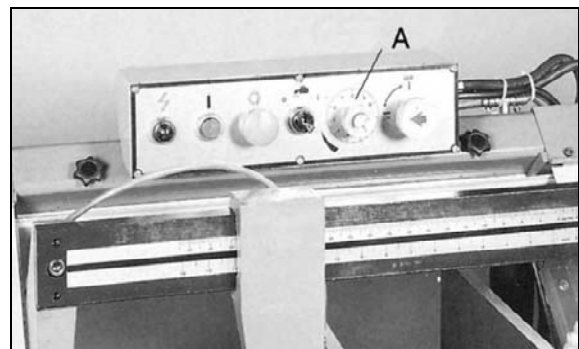

Fig. 6
When the oil regulating micro switch (A) Fig.6 is turned clockwise as far as it will go, the saw frame will not move down. By turning the feed control valve counter-clockwise, you regulate the flow of oil from the cylinder and determine the speed at which the saw frame will lower and the blade will feed through the work. Too many factors are involved to make tabulated data practical on feed rates. As a general rule, an even pressure without forcing the blade gives best results. Avoid forcing the blade at the start as this may shorten blade life and produce a bad cut. By inspecting the chips while the cut is being made will indicate whether the feed rate is correct. Fine powdery chips indicate a feed rate which is too light. The teeth are rubbing over the surface instead of cutting. Burned chips indicate excessive feed which causes the teeth to break off as the blade overheats. The ideal feed rate is indicated by chips that have a free curl and this will give the fastest cutting time and longest blade life.